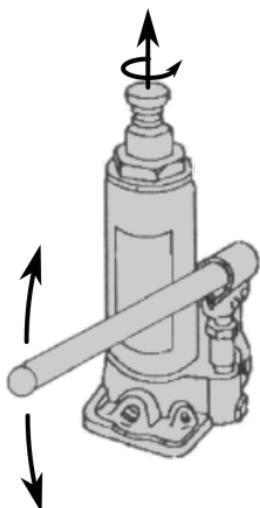

Figure 5: Lifting with the service jack
3. Position the service jack under the vehicle in such a way that the hydraulic jack is located centrally under the mounting point of the vehicle (for more information, consult the manual of your vehicle). Rotate the extension spindle (Position 2 in the overview) anti-clockwise and extend (Figure 5) until it makes contact with the mounting point of the vehicle.